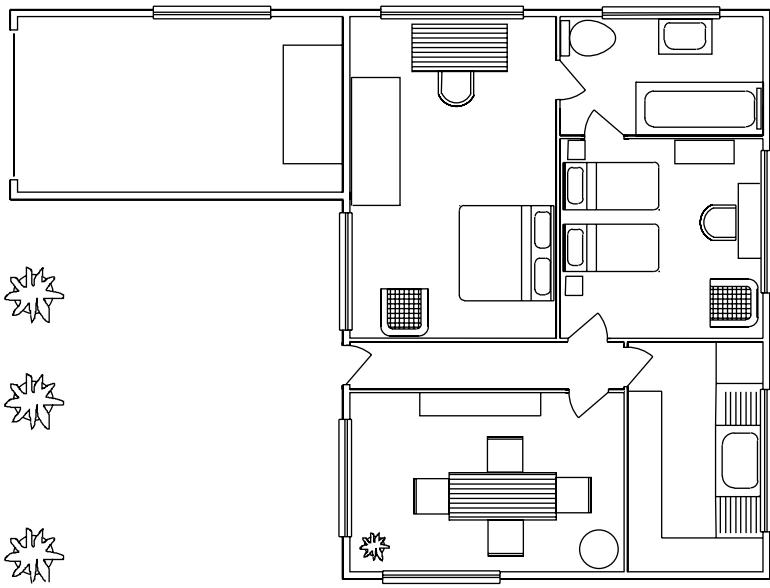

Fig. 9.8 Example – first method of inserting blocks
4. Insert all necessary blocks and add other detail as required to the plan outline drawing. The result is given in Fig. 9.8.
Taking the drawing Fig. 9.8 as an example. If all the unnecessary data is purged from the drawing, the file will be reduced from **145 Kbytes** to **67 Kbytes** when the drawing is saved to disk.